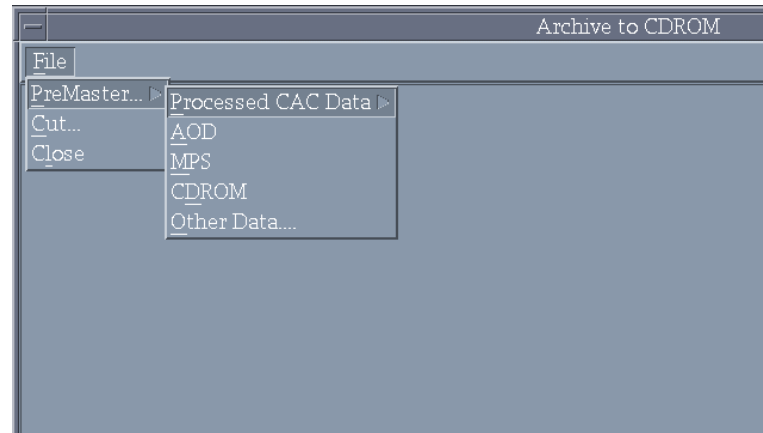

Fig. 38 – Archive to CDROM window
**3.3.6.2.1 Archive Data To CDROM** — This option will “Premaster” a set of data into a CD image and writes the data to a CD. The CD images conform to the International Standard Organization (ISO) 9660 standard for optical disk formats. When a user selects this option, MMC opens the **Archive To CDROM Window** (Fig. 38). Click on *PreMaster...* and select the data type to be archived: Processed CAC Data, AOD, MPS, CDROM, or Other Data. MMC will build an ISO 9660 Image from that data. If the user has built an ISO Image before, MMC will prompt the user to delete that file before building a new one. After premastering the data into an ISO Image, select *Cut...* to actually copy the data to a CD. When finished, select *Close* to return to the **MMC Window**. There are six data types that MMC can archive to CD: